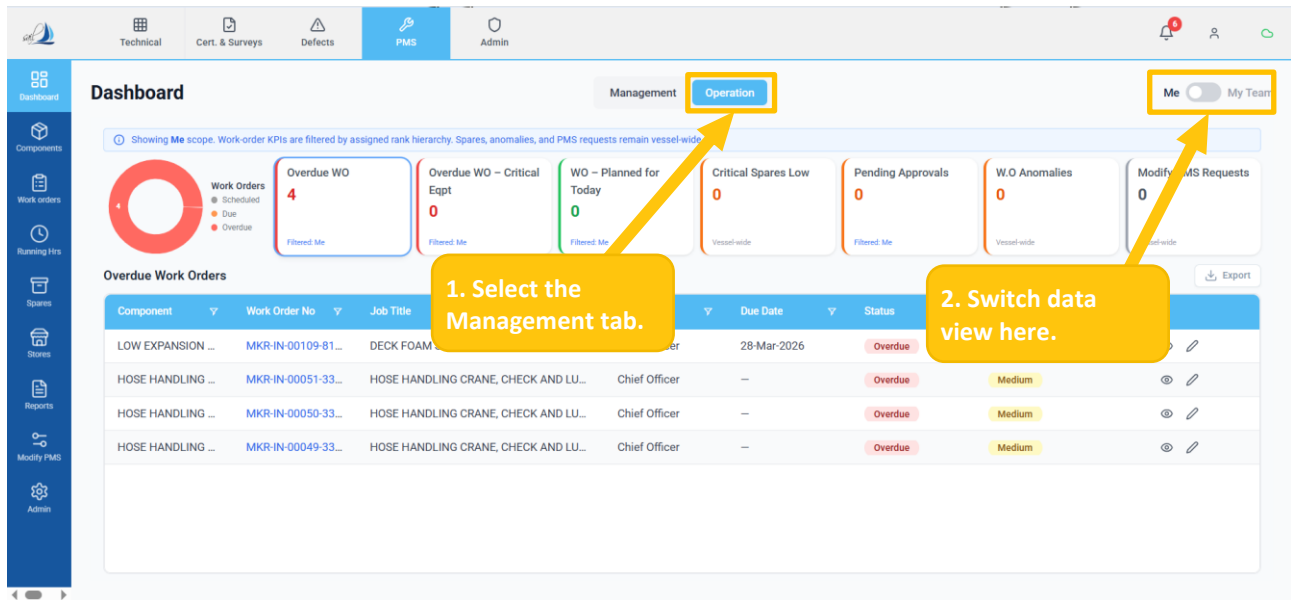

Figure 9
- Click on the 'Operation' tab in the header. (Ref Figure 9)
- Click the 'Me / My Team' toggle to switch between personal and team data views. (Ref Figure 9)